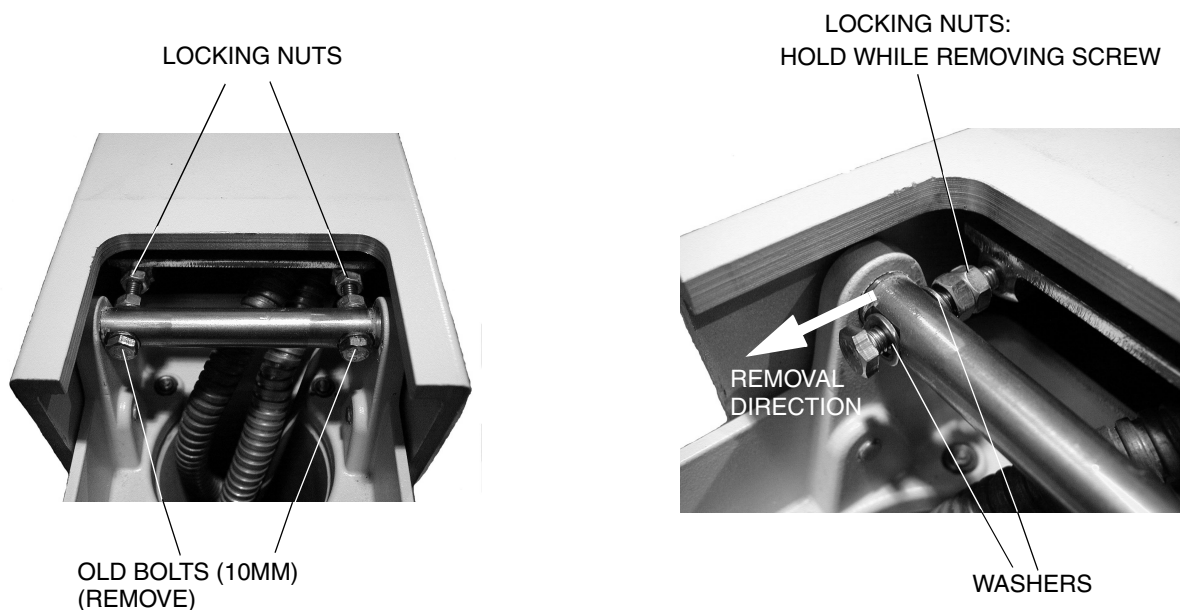

FIGURE 2. Old Hardware Removal
3. Using a 10 mm wrench, starting with the left side hardware, loosen the two inside locking nuts. Once the locking nuts are loose, hold them with your hand while removing the screw. Be sure to capture the loose washers so they do not fall down into the unit. See Figure 2.